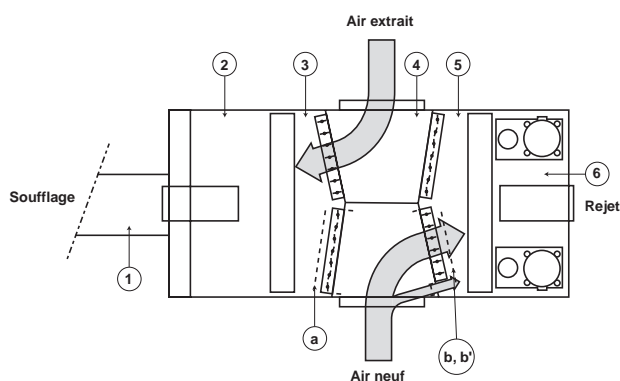

Figure 15
- A. Set the unit to the "recycle air" position (Figure 15)